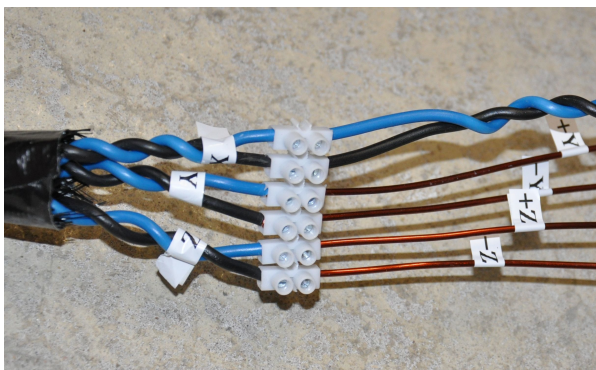
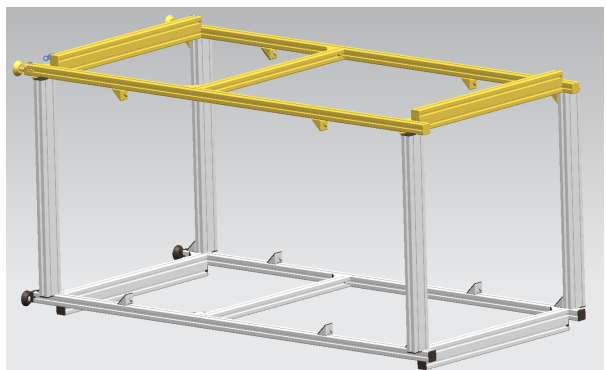

Figure 2.2.: Main connector (X-cables temp.)
Figure 2.3.: Intermediate (dis-)assembly step
- b) Disconnect coil cables from central screw terminal (Fig. 2.2)
- a) Unscrew upper coil brackets (20) from profiles (08), but leave them on the coil
- c) Remove upper coil support profiles (08), leave angle pieces on main structure
- a) Unscrew coil brackets (19) for one Y-axis coil (A5) from frame profiles (07), but leave them on the coil
4. Remove mounting plate (21)
5. Lay remaining frame on its side, mounting plate profiles (09) should be on top and bottom (orientation shown in Figure 2.3)
6. Separate "upper" rectangular frame section (highlighted yellow in Figure 2.3)
- a) Remove bolts of angles connecting rectangle to cross-member profiles (07), angle pieces should remain on "upper" rectangle
7. Remove cross-member profiles (07) from "lower" rectangle section, angles stay attached
1. Lay one main frame rectangle on the floor as shown in Figure 2.3
2. Attach cross-member profiles (07)
3. Attach second frame rectangle on top, state should now be as shown in Figure 2.3.
5. Attach mounting plate (21)
- d) Connect main screw terminal as shown in Figure 2.2